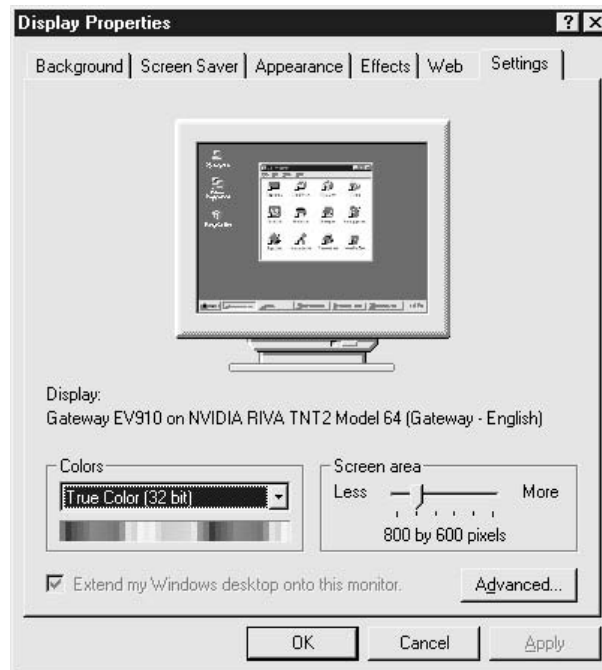

Figure 16-3. The Windows Display Properties window
2. Choose Properties to open the Display Properties window shown in Figure 16-3.